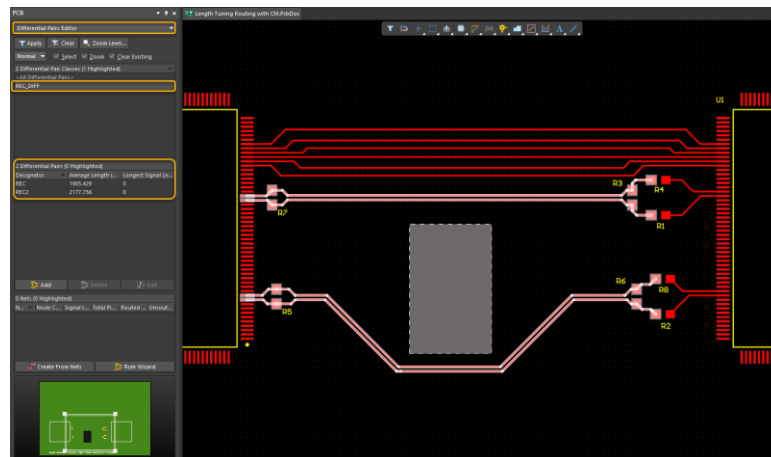

Figure 5. Differential Pairs Editor – PCB panel
34. Select the `REC_DIFF` differential pair class to zoom to the two pairs on the PCB, Figure 5. Note that the *Average Lengths* are shown for each pair.